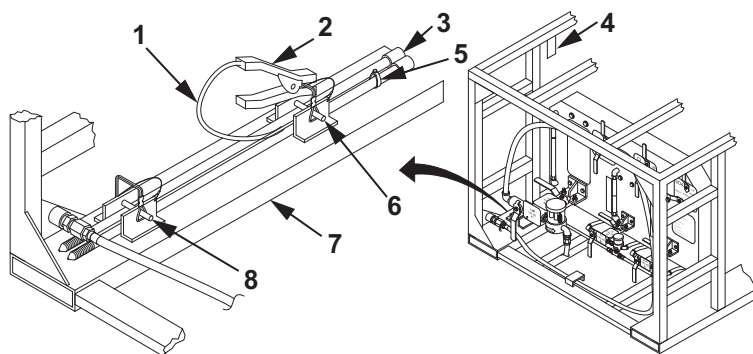

Figure 17. Fuel Additive Injection System Grounding Rod Assembly.
- a. Remove ground cable clamp (Figure 17, Item 2) with copper ground cable (Figure 17, Item 1) from bail pin (Figure 17, Item 6).
- b. Remove bail pin (Figure 17, Item 6).
- c. Remove bail pin (Figure 17, Item 8).
- d. Remove ground rod (Figure 17, Item 3) from fuel additive injection assembly frame (Figure 17, Item 7).
- e. Drive ground rod (Figure 17, Item 3) into the ground per FM 10-67-1.
- f. Loosen screw (Figure 17, Item 5) on ground rod (Figure 17, Item 3).
- g. Insert copper ground cable (Figure 17, Item 1) under screw (Figure 17, Item 5) and tighten screw (Figure 17, Item 5).
- h. Attach ground cable clamp (Figure 17, Item 2) to copper grounding plate (Figure 17, Item 4) on fuel additive injection assembly frame (Figure 17, Item 7).